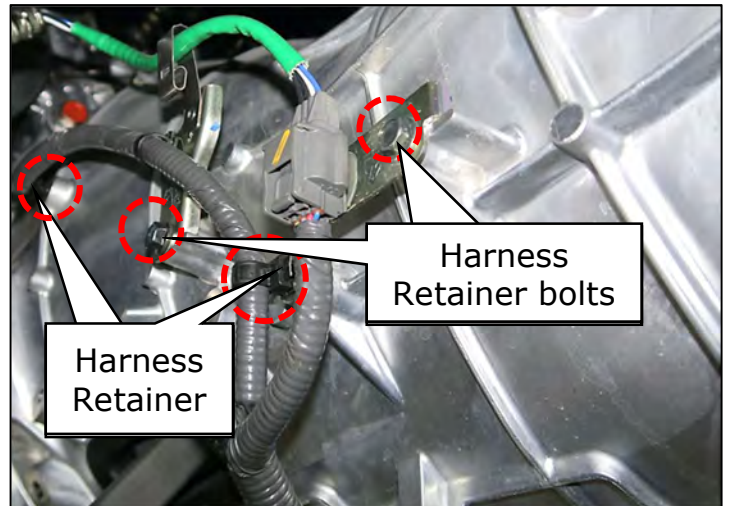

Figure 51
52. Remove the (2) harness retainer bolts and (2) harness retainers from the transmission case. (Figure 51)